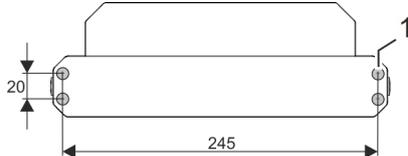

Fig. 31: Connection points – Multilift I
2. ➔ Insert 4 screws into the drilled holes (Fig. 31/1) on the substrate and lifting column.